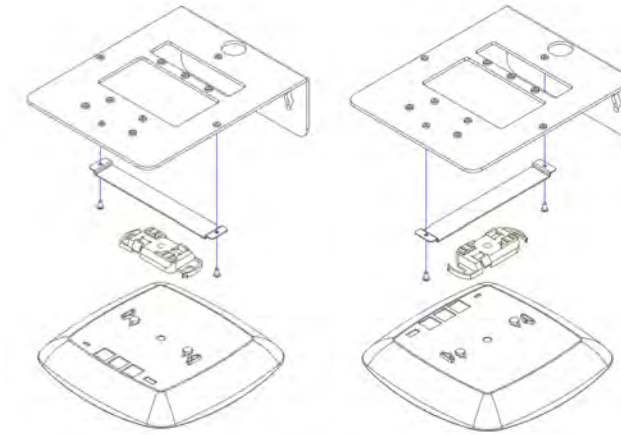

Figure 3
Step 3b (*Other Manufacturers*) – Fasten the provided T-Bar bracket in the best position for the access point, then securely fasten the access point and its respective mounting plate or bracket (Figure 3).